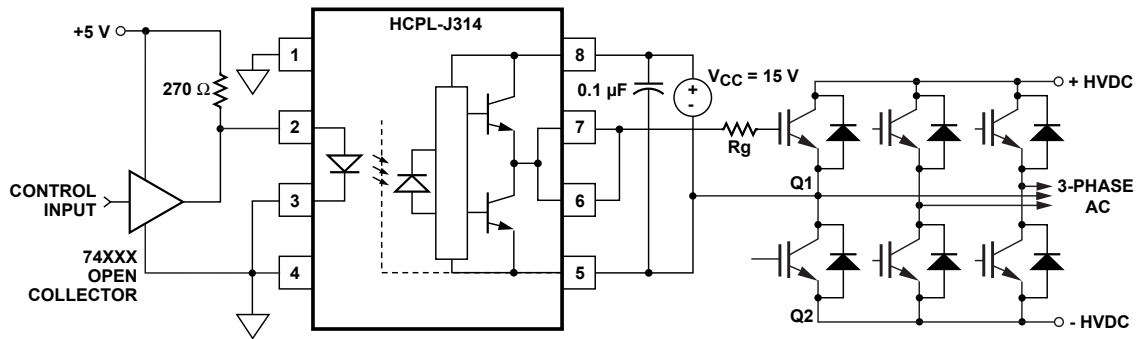
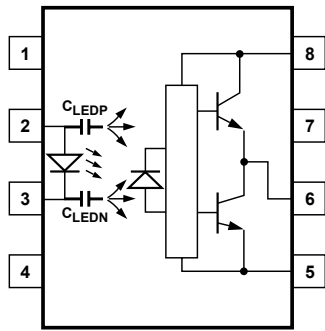
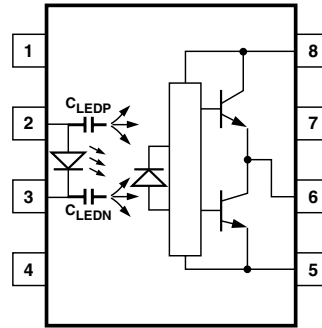
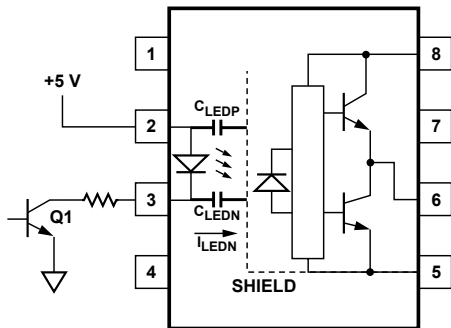

Figure 19. Recommended LED drive and application circuit for HCPL-J314.
Figure 21. Optocoupler input to output capacitance model for unshielded optocouplers.
Figure 22. Optocoupler input to output capacitance model for shielded optocouplers.
Figure 24. Not recommended open collector drive circuit.
To keep the IGBT firmly off, the HCPL-J314 has a very low maximum  $V_{OL}$  specification of 1.0 V. Minimizing  $R_g$  and the lead inductance from the HCPL-J314 to the IGBT gate and emitter (possibly by mounting the HCPL-J314 on a small PC board directly above the IGBT) can eliminate the need for negative IGBT gate drive in many applications as shown in Figure 19. Care should be taken with such a PC board design to avoid routing the IGBT collector or
**Step 1:** Calculate  $R_g$  minimum from the  $I_{OL}$  peak specification. The IGBT and  $R_g$  in Figure 19 can be analyzed as a simple RC circuit with a voltage supplied by the HCPL-J314.
where  $K_{ICC} \cdot Q_g \cdot f$  is the increase in  $I_{CC}$  due to switching and  $K_{ICC}$  is a constant of 0.001 mA/(nC\*kHz). For the circuit in Figure 19 with  $I_F$  (worst case) = 10 mA,  $R_g = 32\ \Omega$ , Max Duty Cycle = 80%,  $Q_g = 100\text{ nC}$ ,  $f = 20\text{ kHz}$  and  $T_{AMAX} = 85^\circ\text{C}$ :
Without a detector shield, the dominant cause of optocoupler CMR failure is capacitive coupling from the input side of the optocoupler, through the package, to the detector IC as shown in Figure 21. The HCPL-J314 improves CMR performance by using a detector IC with an optically transparent Faraday shield, which diverts the capacitively coupled current away from the sensitive IC circuitry. However, this shield does not eliminate the capacitive coupling between the LED and optocoupler pins 5-8 as shown in Figure 22. This capacitive coupling causes perturbations in the LED current during common mode transients and becomes the major source of CMR failures for a shielded optocoupler. The main design objective of a high CMR LED drive circuit becomes keeping the LED in the proper state (on or off) during common mode transients. For example, the recommended application circuit (Figure 19), can achieve 10 kV/μs CMR while minimizing component complexity.
The open collector drive circuit, shown in Figure 24, can not keep the LED off during a  $+dV_{CM}/dt$  transient, since all the current flowing through  $C_{LEDN}$  must be supplied by the LED, and it is not recommended for applications requiring ultra high CMR1 performance. The alternative drive circuit which like the recommended application circuit (Figure 19), does achieve ultra high CMR performance by shunting the LED in the off state.